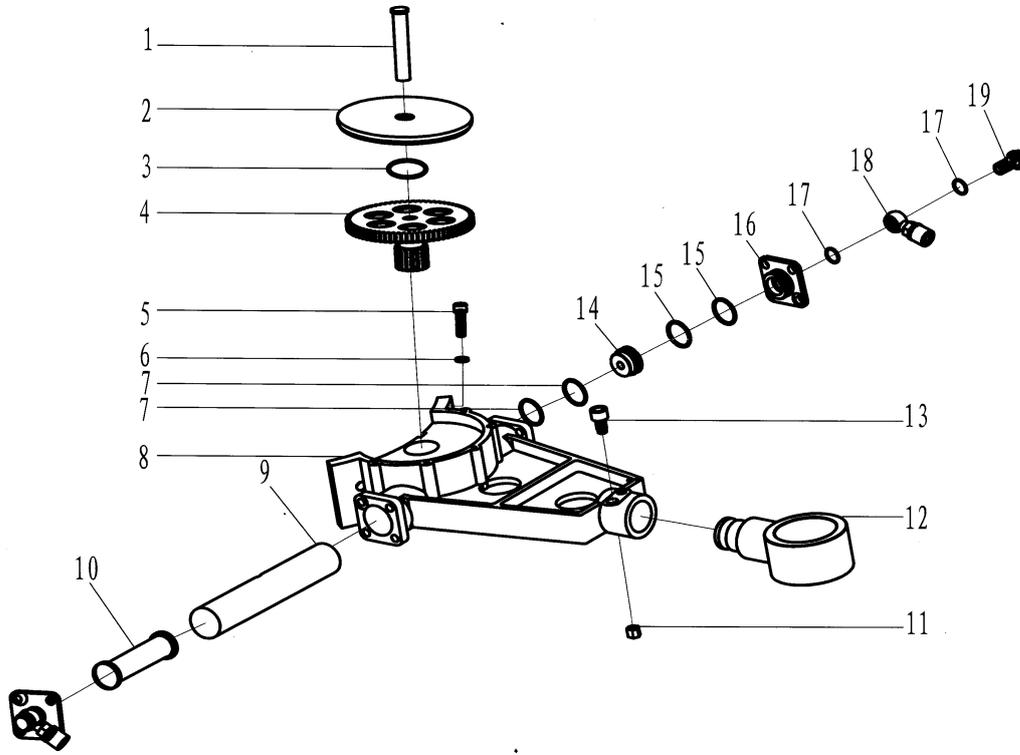

Fig12. Backup tong tail assembly
7.4 Fore guide pole assembly (Fig12. Table12)